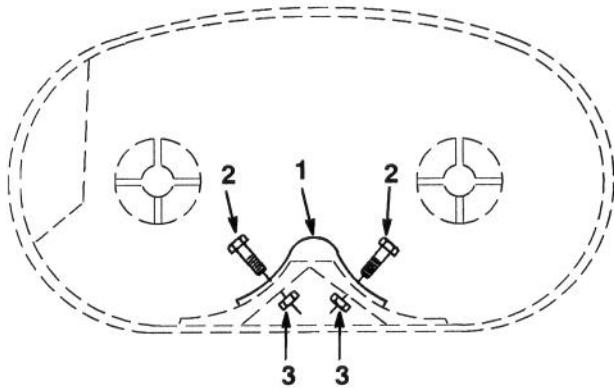

Figure 1
1. Center rear weldment as shown in (Fig. 1). Install rear baffle to deck using two 1/4"-20 x 3/4" bolts and 1/4-20 lock nuts.